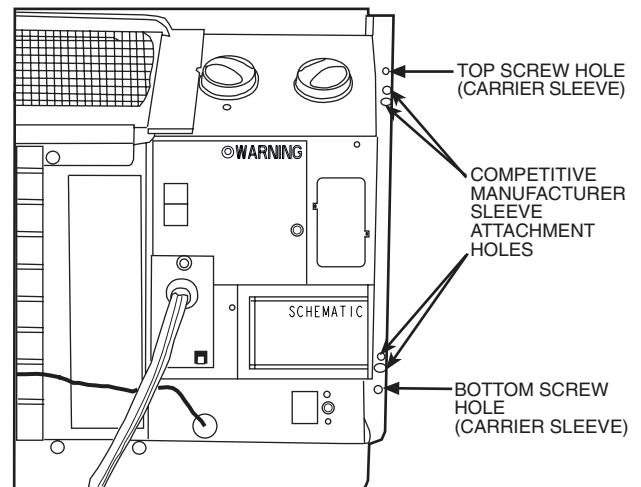

FIGURE 13 — CHASSIS MOUNTING
7. Screw chassis to wall sleeve with four 1³/₄-in. long screws taped to the control box. Screw holes are located on both sides of the mounting angles of the chassis. For Carrier wall sleeves, use the top-most and bottom-most screw holes. For competitive wall sleeves, line up the correct attachment holes on the chassis with the holes in the sleeves. See Figure 13.